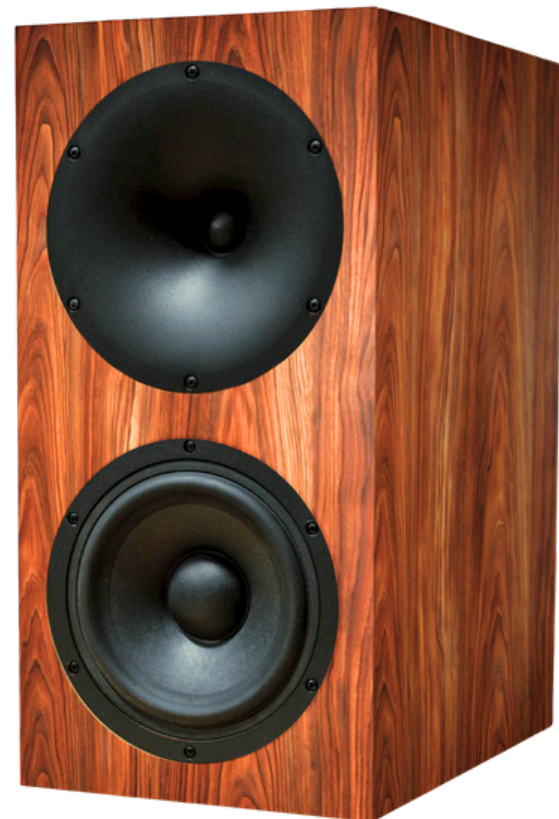

FIGURE 7
6. Apply wood glue to mating seams one at a time and assemble using the steps above as a guide (*figure 7*).